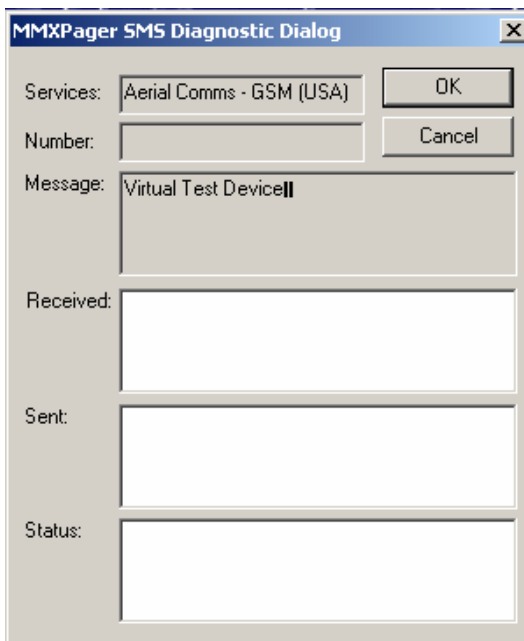
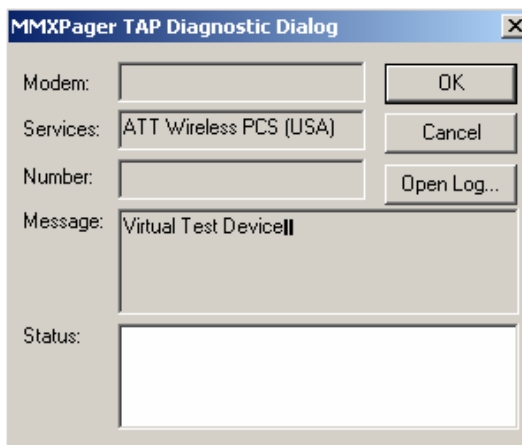

Figure A.19. SMS Diagnostic Dialog Box
Figure A.20. TAP Diagnostic Dialog Box
7. To test your configuration without having to actually trigger an alarm, click the **TEST** button. If you experience problems in getting Multimedia to successfully send a page, enable the diagnostic dialog and/or log file to see where within the paging sequence the problem is occurring. If you chose to enable the diagnostic utilities (see Figure A.3) when configuring your pager services, the diagnostic dialog boxes will appear. The **SMS Diagnostic** dialog box is shown in **Figure A.19**. If you are using TAP and you chose to enable the TAP log file (in Figure A.3), you can view the log file by clicking the **Open Log** button in the **TAP Diagnostic** dialog, shown in **Figure A.20**.